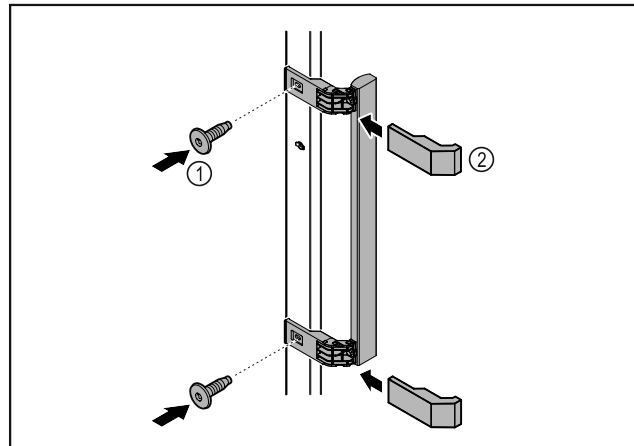

Fig. 57
- ▶ Attach handle from accessory kit to the door using the screws supplied Fig. 57 (1).
- ▶ Put on cover Fig. 57 (2).